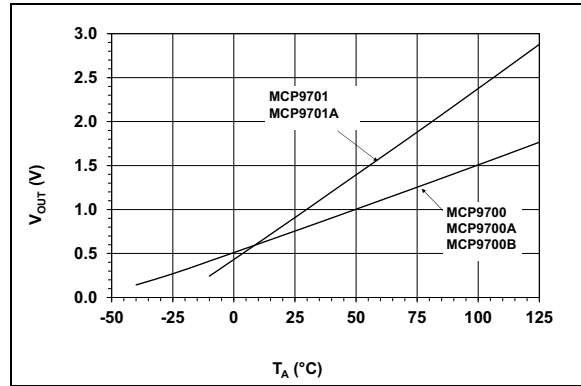

FIGURE 2-17: Output Voltage vs. Ambient Temperature.
- 3:** The MCP9700/9700A/9700B and MCP9701/9701A family is characterized using the first-order or linear equation, as shown in Equation 4-2. Also refer to Figure 2-17.
The Linear Active Thermistor™ IC uses an internal diode to measure temperature. The diode electrical characteristics have a temperature coefficient that provides a change in voltage based on the relative ambient temperature from -40°C to 150°C. The change in voltage is scaled to a temperature coefficient of 10.0 mV/°C (typical) for the MCP9700/9700A/9700B and 19.5 mV/°C (typical) for the MCP9701/9701A. The output voltage at 0°C is also scaled to 500 mV (typical) and 400 mV (typical) for the MCP9700/9700A/9700B and MCP9701/9701A, respectively. This linear scale is described in the first-order transfer function shown in Equation 4-1 and Figure 2-17.